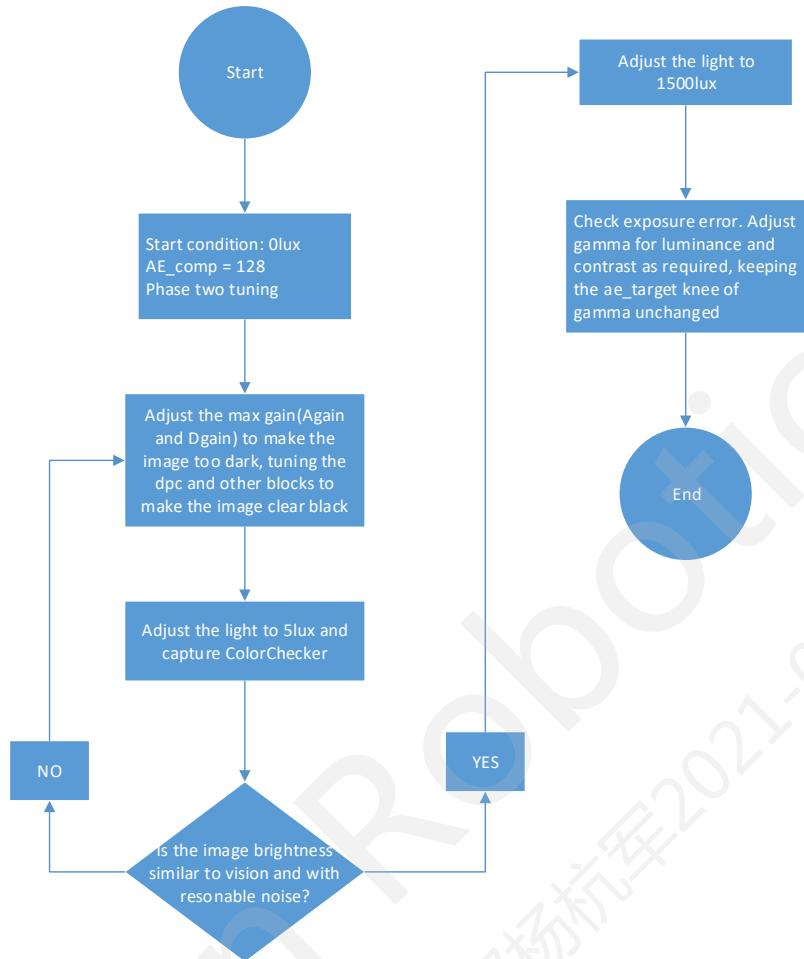

Figure 3.1-10 Flowchart of phase 3 AE Tuning
1. Some systems have special requirements for low light, which requires additional debugging for specific needs. For example, surveillance cameras require that in low light, more image information can be retained in the picture; while items such as mobile phones and drones only need to be able to take beautiful pictures in low light. For special needs such as these, additional debugging work is required for low light. The specific debugging process is as follows Figure 3.1-10: